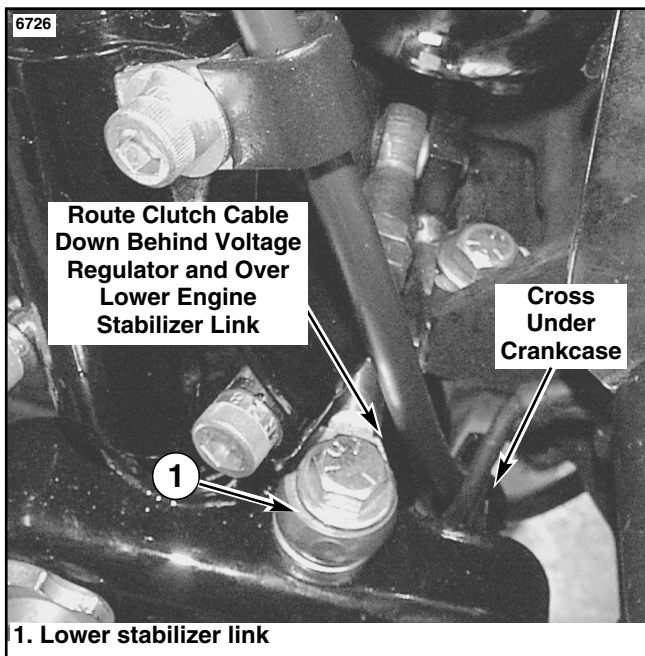

Figure 2. Revised Lower Clutch Cable Routing
3. See Figures 2 and 3. Continue to route cable down behind regulator, over engine stabilizer link and diagonally under crankcase to clutch release cover on right side of transmission.